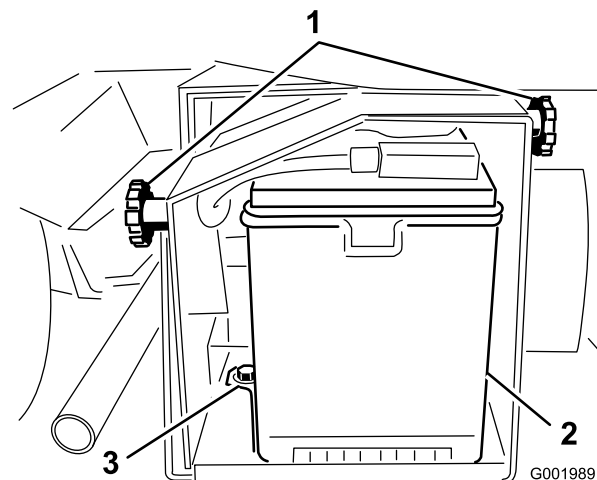

Figure 54
2. Loosen the knobs on the sides of the battery box and remove the battery cover (Figure 54).
5. Remove the battery retainer and fasteners (Figure 54).
2. Install the battery retainer and secure it with the fasteners you removed previously (Figure 54).
4. Install the battery cover and secure it with the 2 knobs (Figure 54).
1. Loosen the knobs on the sides of the battery box and remove the battery cover (Figure 54).